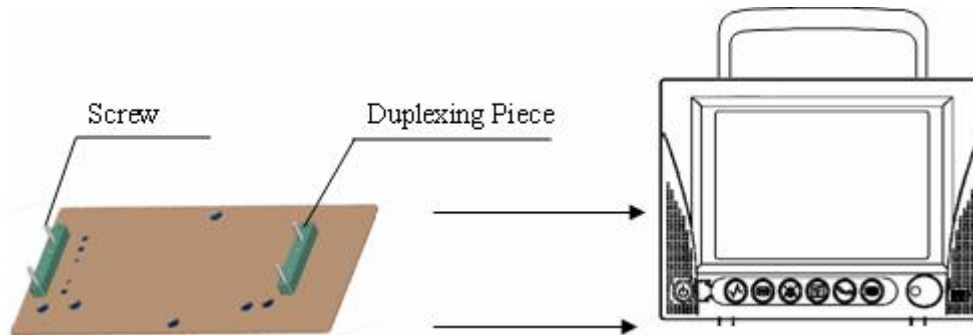

Figure2-3
6. Face the side with duplexing piece of the device holding plate to the underside of the patient monitor, fix it with M4×25mm screw (as shown in Figure 2-3).